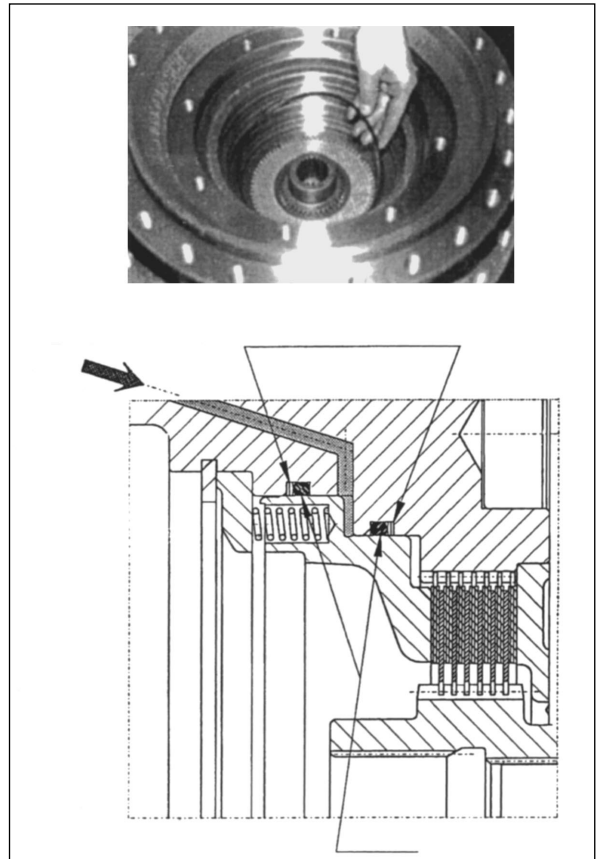

Figure 116
26. Install O-ring (1, Figure 116) and backup ring (2) into hub groove.